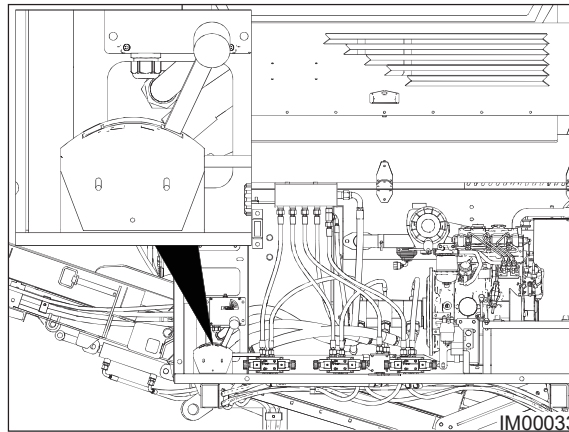

Fig: 9.12 - Throttle Lever
9. Using the Throttle (Fig: 9.12), reduce the engine speed to idle (950 RPM).